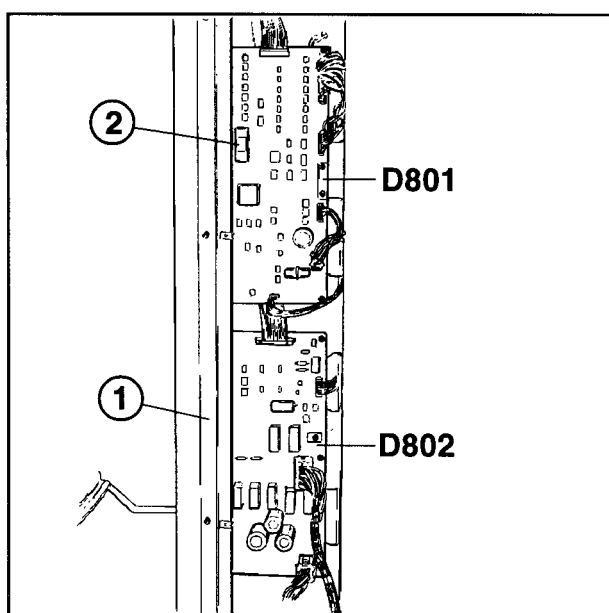

Fig. 6
- Remove the screw profile (1/Fig. 6)
- Remove firmware I9 (2/Fig. 6).